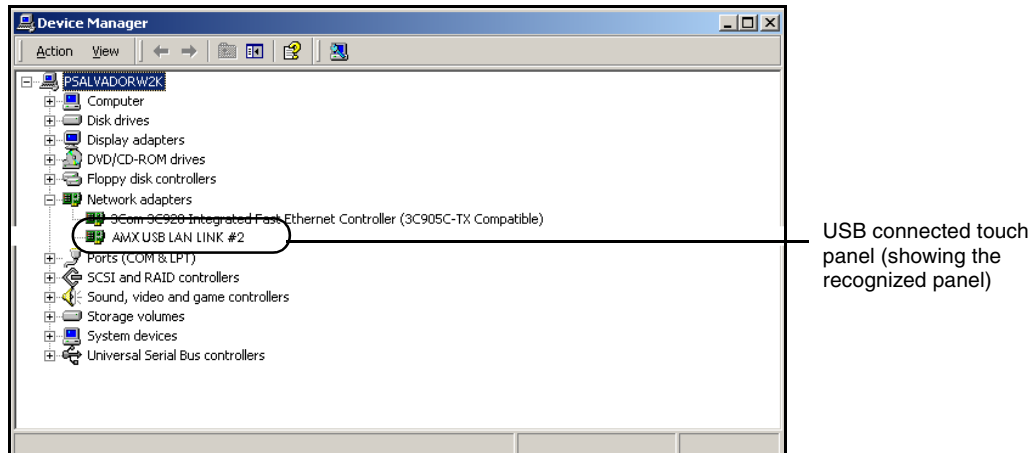

FIG. 76 Device Manager dialog showing USB device
- Within the *Device Manager* dialog, the AMX USBLAN device appears under Network Adapters (FIG. 76) and has a unique name such as AMX USB LAN LINK #2. The number changes depending on which recognized panel is currently connected.